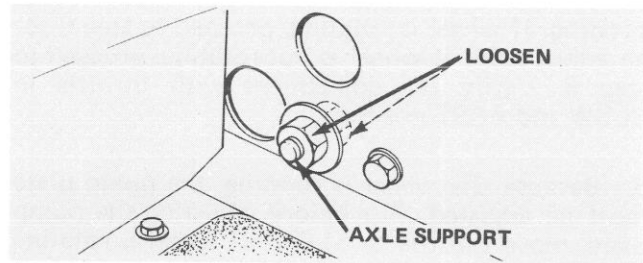

Figure 49
2. To correct vertical misalignment, loosen axle support nuts at rear of floor plate (Fig. 49). A transmission that is too high will have a gap between the scale and the coupling retainer. To correct this problem, install a 1/16 inch (1.6 mm) spacer between rear of mounting pad and bottom of